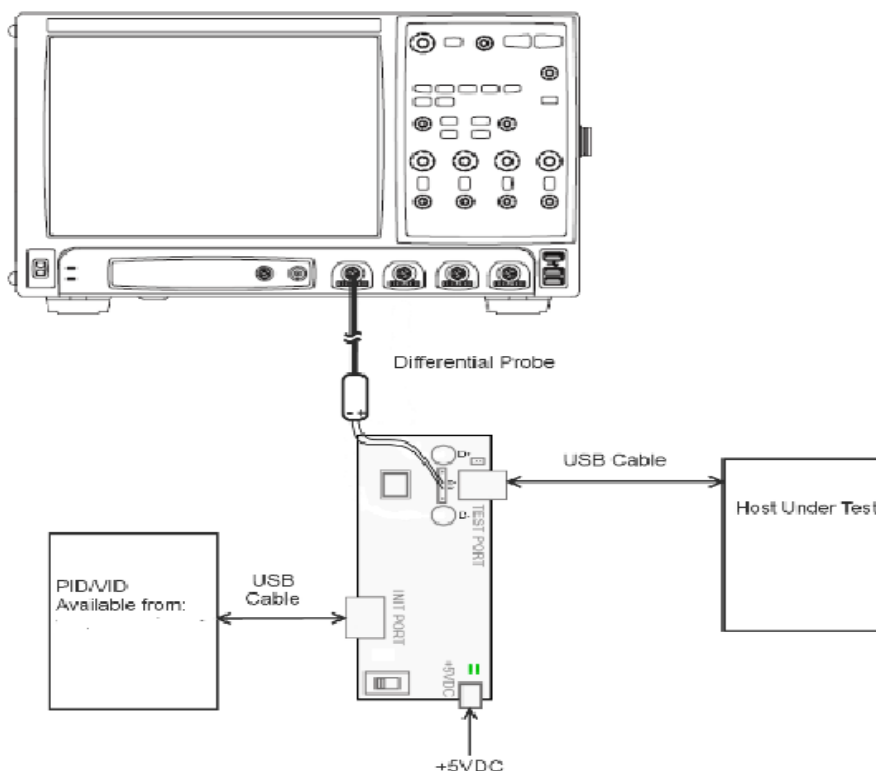

Figure 63. Host HS Signal Quality Test environment
2. Connect the equipment and test fixture as shown in Figure 63.